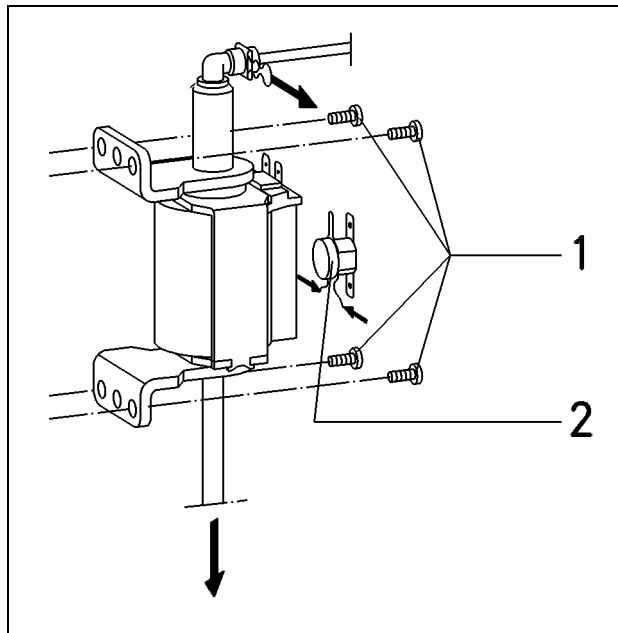

Figure 5-29: Steam Pump Removal
9. Remove the pump bracket retaining screws (Figure 5-29, Item 1).
14. Unclip the thermostat and remove it (Figure 5-29, Item 2).